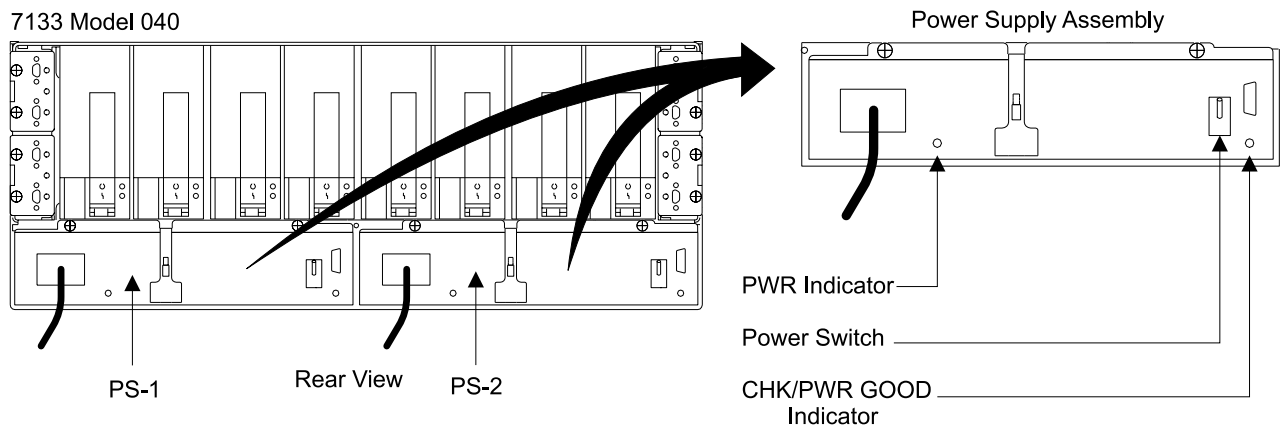

Figure 145. SSA DASD Model 040 Power Supply Assembly Indicators (S008019m)
2. Observe the SSA DASD drawer amber power supply CHK/PWR (check/power) Good indicators in Figure 145.